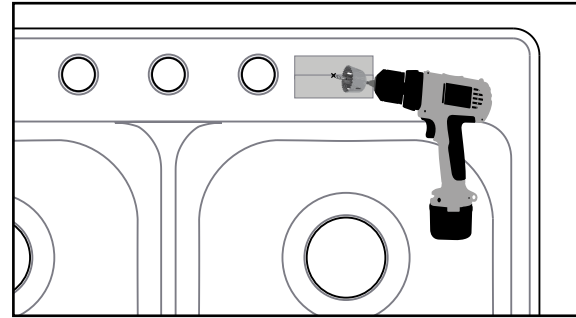

FIGURE 2. Cut hole using hole saw
- Use 1-3/8" carbide grit hole saw to cut faucet hole(s) (Fig 2).